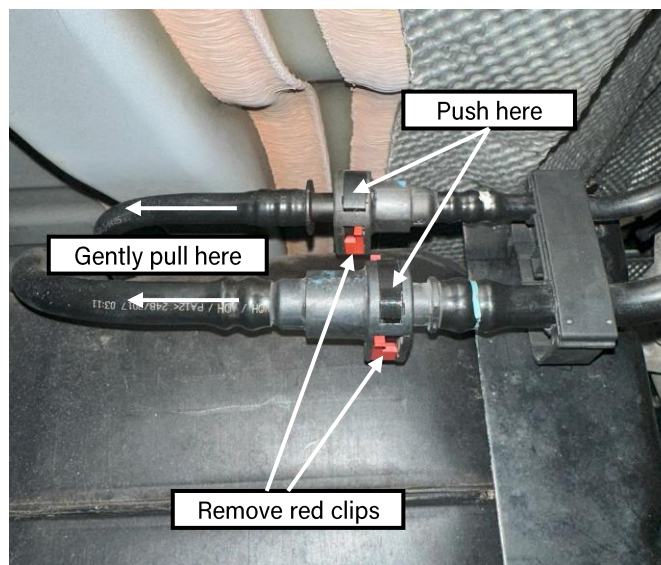

Figure 22: Front of tank connections
- ❑ Remove the two plastic red retaining clips from both lines pictured below (Figure 22)